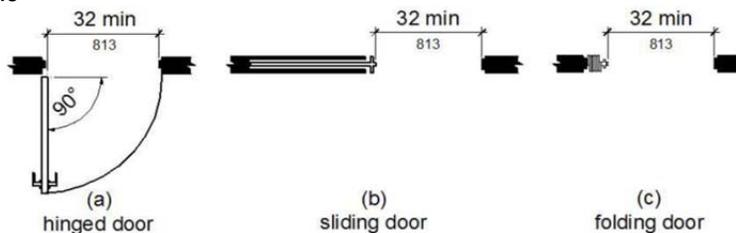

FIGURE 11B-404.2.3
- Where pair of doors proposed, at least one door leaf shall provide minimum 32-inch clear width with that door leaf open per CBC Figure 11B-404.2.3